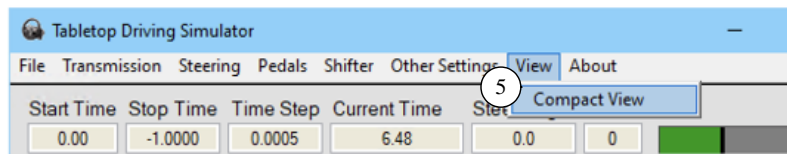
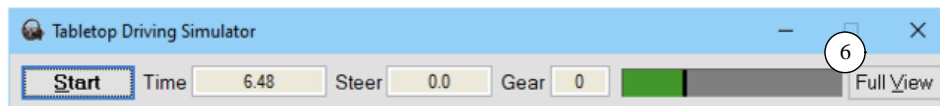

Figure 21. Use the View menu to switch to the Compact View mode.
Figure 22. Use the Full View button to switch back to the Full View.
The window has two display modes. To switch to the Compact View, use the **View** menu (Figure 21, ⑤). The compact view (Figure 22, ⑥) has a button to switch back to the Full View.